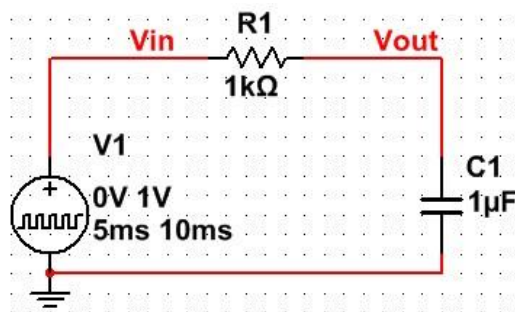

Fig. 1: RC Circuit.
- PE1. Compute the time constant, τ , for the RC circuit shown in Fig. 1.
- PE2. Sketch the bode plot for the STC circuit shown in Fig. 1. The transfer function is defined by: $T(j\omega) = V_{out}/V_{in}$. Include both magnitude and phase and clearly indicate the -3 dB point.
- E2. Using components from the CAPACITOR, RESISTOR, POWER_SOURCES and SIGNAL_VOLTAGE_SOURCES families draw the circuit shown in Figure 1. These component families can be found under “Sources” and “Basic” groups. *(Note: There is a search function that allows you to type in the component name. Please avoid it for this lab, as it does not return the right resistor model, we need to perform parameter sweep in Part 2.2. For the RESISTOR and CAPACITOR models, Go to BASIC → RESISTOR or CAPACITOR, and pick the appropriate value.)*
- E5. Right click and select properties for each net in the circuit and rename as them shown in Fig. 1 by entering alternate net names in the ‘Preferred net name’ field.